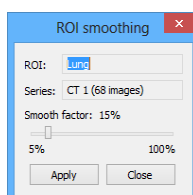

Figure 250 – ROI smoothing dialog
2. The **ROI Smoothing** dialog is then displayed (see Figure 250).